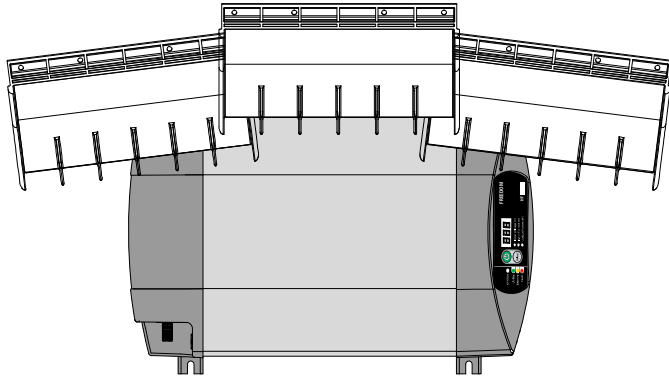

Figure 10 Typical Drip Shield Placement on a Freedom HF 1800
2. Locate an appropriate setting for the drip shields above the Freedom HF making sure you cover the entire width of the unit. You can overlay the shields as shown in Figure 10 below.